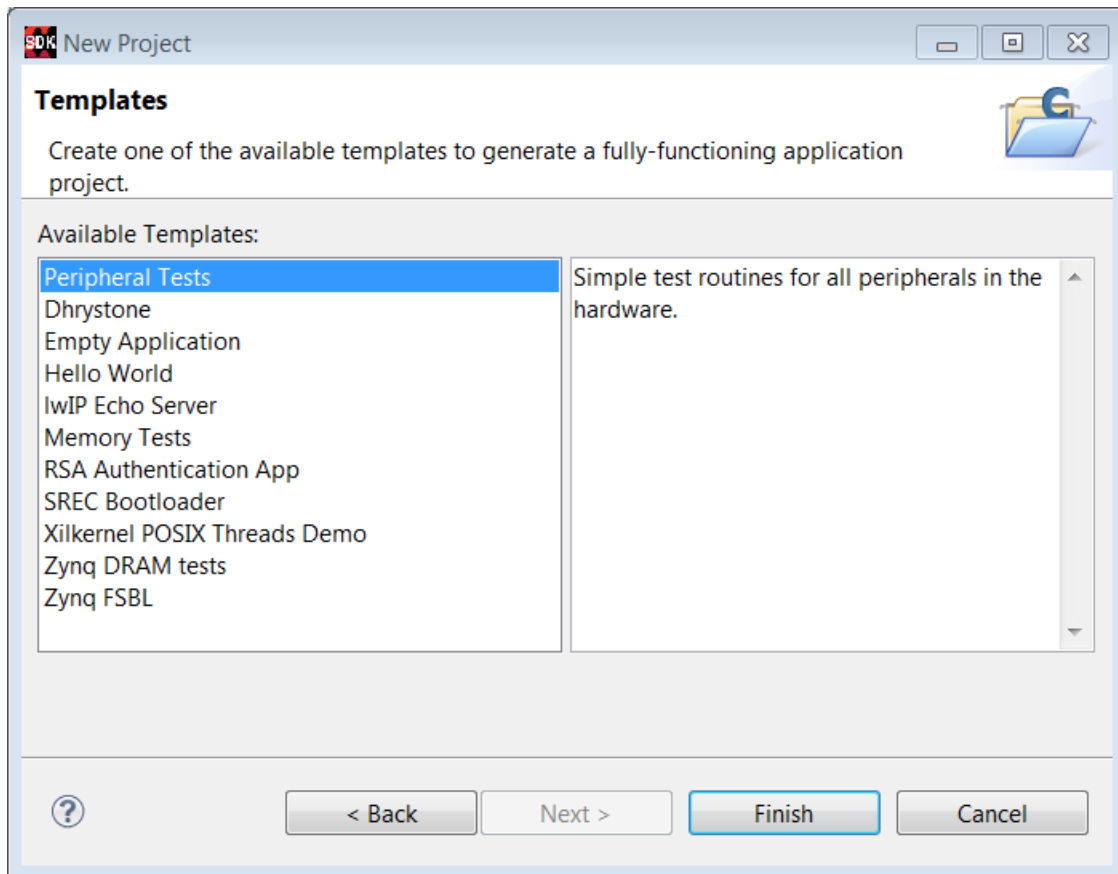

Figure 73: Select the Peripheral Tests Template
4. From the **Available Templates**, select Peripheral Tests (**FIGURE 73**).